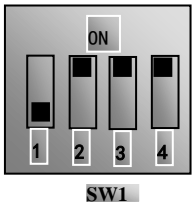

Fig 5-5
(6) There is a red four-digit coding switch SW1 near the control terminal block of above 30 kW inverter, as shown in Figure 5-5. The function of coding switch is to select the input range (0~5V/0~10V/0~20mA) of analog input terminal AI1 and AI2. In actual application, select the analog input channel through F203. AI1 channel default value is 0~10V, AI2 channel default value is 0~20mA. Another switches states and mode of control speed are as table 5-3.